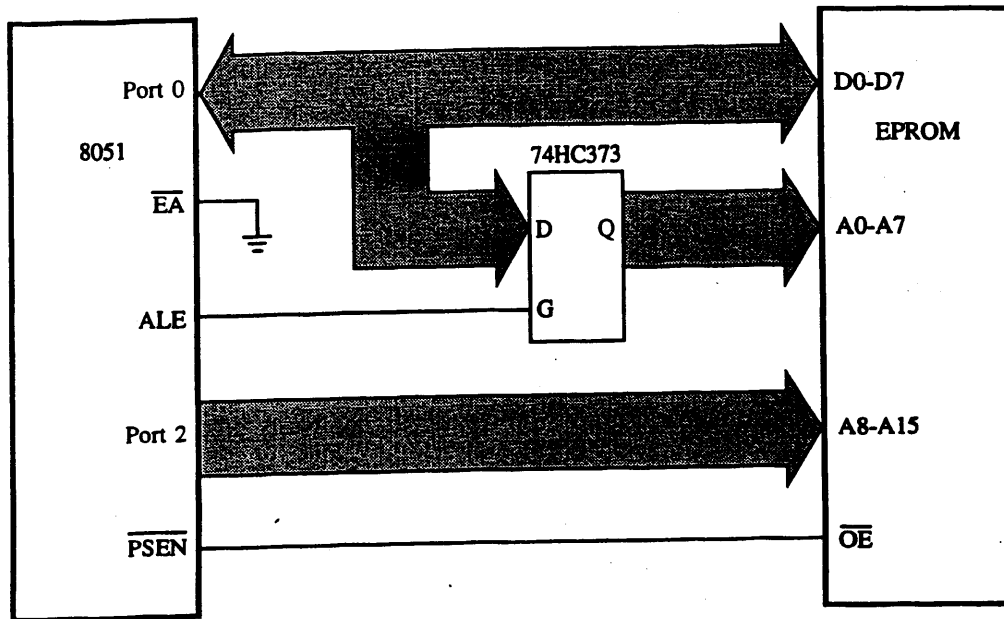

FIGURE 2-8
④ See handout Fig 2-8 (textbook)
⑤ Accessing ext code mem.
⑥ Port 2 is used as AH (address high 8 bits)
⑦ (Port 0 is used as AL (" low ")